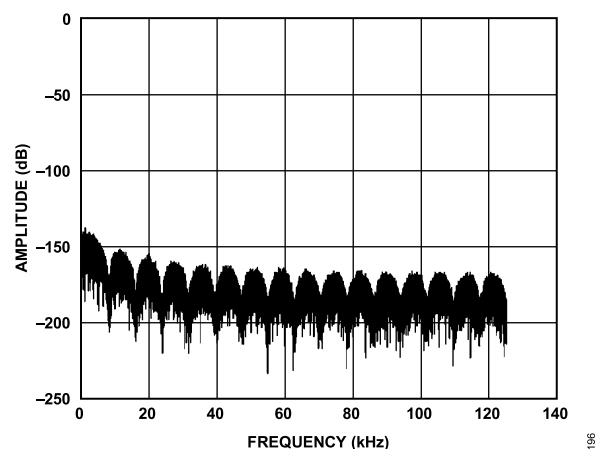

Figure 99. Example Filter Profile Upload
- Gather data. The resulting filter profile is shown in Figure 99.
The following sequence programs a sinc1 filter. The coefficients in Address 0 to Address 23 = 0. The coefficients from Address 24 to Address 55 = 131,072 ($2^{22}/32$). When MCLK = 16.384 MHz and ODR = 256 kHz, the filter notch appears at 8 kHz and multiplies of 8 kHz. This filter provides low noise and is recognizable by the distinctive filter profile shown in Figure 99.